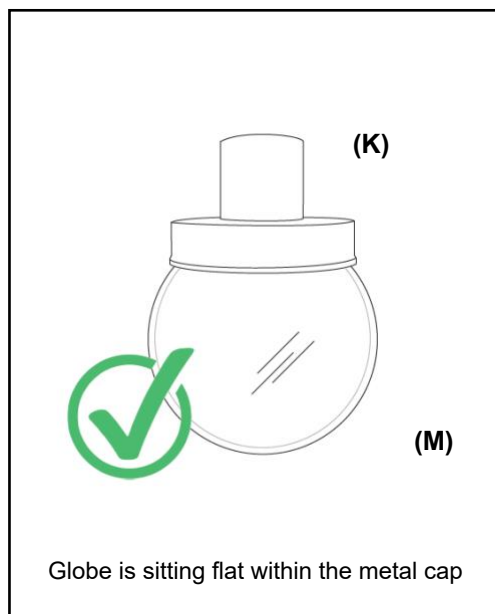
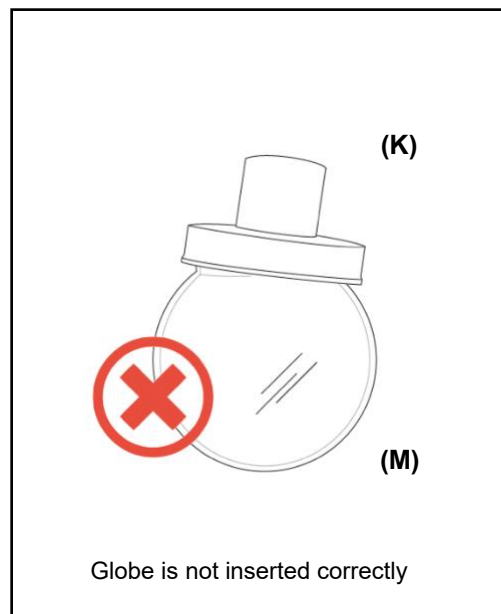

Fig 1
Fig 2
To adjust the suspension length of the fixture (Fig 1):
**(Fig 1)**
- 5) Re-insert the cord first through the Canopy Loop (H) and then through the Grounding washer (F), Hex Nut (E) and into the crossbar's threaded pipe. Pull the cord through tightly so that the chain's Quick Link (I) can attach to the Canopy Ring (H). (Fig 2)
- 3) Place one hand on the Metal Cap (K) to prevent it from spinning
- 4) With the other hand, carefully rotate the Glass cover (M) in a counter-clockwise direction until it becomes loose. Set Glass Globe down while bulb is replaced.
- 5) Insert one (1) 60w max light bulb
- 6) To reattach glass globe, first place one hand on the Metal Cap (K) to prevent it from spinning
- 7) With the other hand, insert the glass globe until you can feel it sit entirely flat within the metal cap (Fig 1). Check visually from all angles that the globe is fully inserted and in a flat position before you begin to turn. **ENSURE GLASS COVER IS SITTING FLAT INSIDE THE METAL CAP BEFORE ROTATING.** If the globe is not sitting flat, it will not connect properly with the threading (Fig 2). **NOTE:** Getting the globe to sit flat may take a few attempts since alignment with the threading is specific.